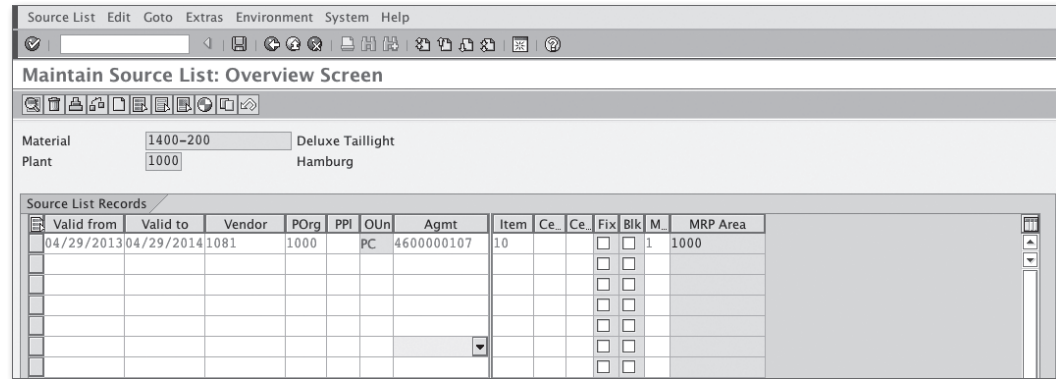

Figure 4.12 Source List
**Source lists** After you create the contract document, it's a good practice to create or update the source list (see Figure 4.12) for that material with the contract number, so that when you create a PO, it's automatically referenced, and all of the conditions are copied into it. Otherwise, you have to reference it manually every time you create a PO. Source lists are discussed in detail in Chapter 2.